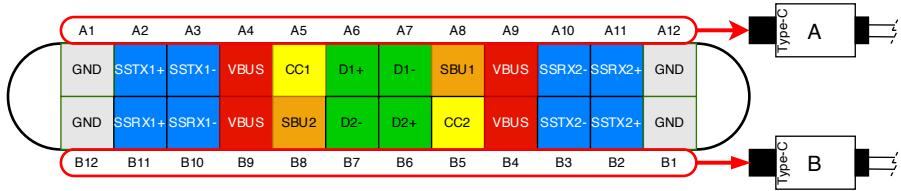

Figure 4: USB-C Connector Detail
- Figure 4 illustrates which CC line is used for Power Delivery negotiation in subsequent application notes and diagrams that specify orientation. For example, diagrams showing connectors with "A" use CC1 for PD communication.